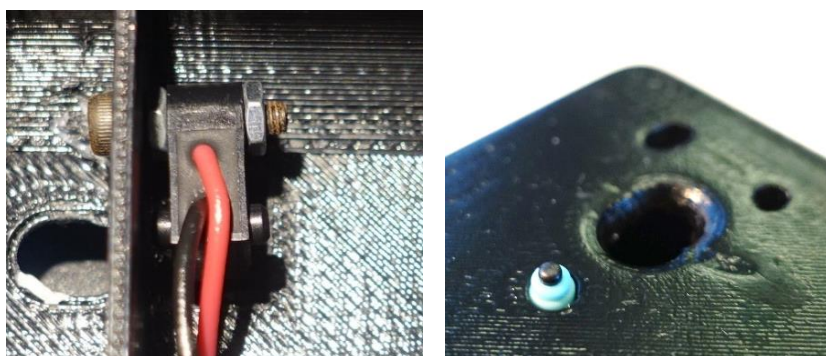

Figure 11: Fixation of the emergency-stop switch from inside (left) and outside (right) the actuator box.
12. Fix the end-stop switch to the box lid (2.01) using one M2x10mm screw and two nuts (3.06) as shown on Figure 11, left. This might require a bit of patience and thin fingers... Make sure to guide the top of the switch through the hole in the lid appropriately so that it may be pressed from the outside as shown on Figure 11, right. Prevent the switch from wobbling using tape (3.41) if necessary.